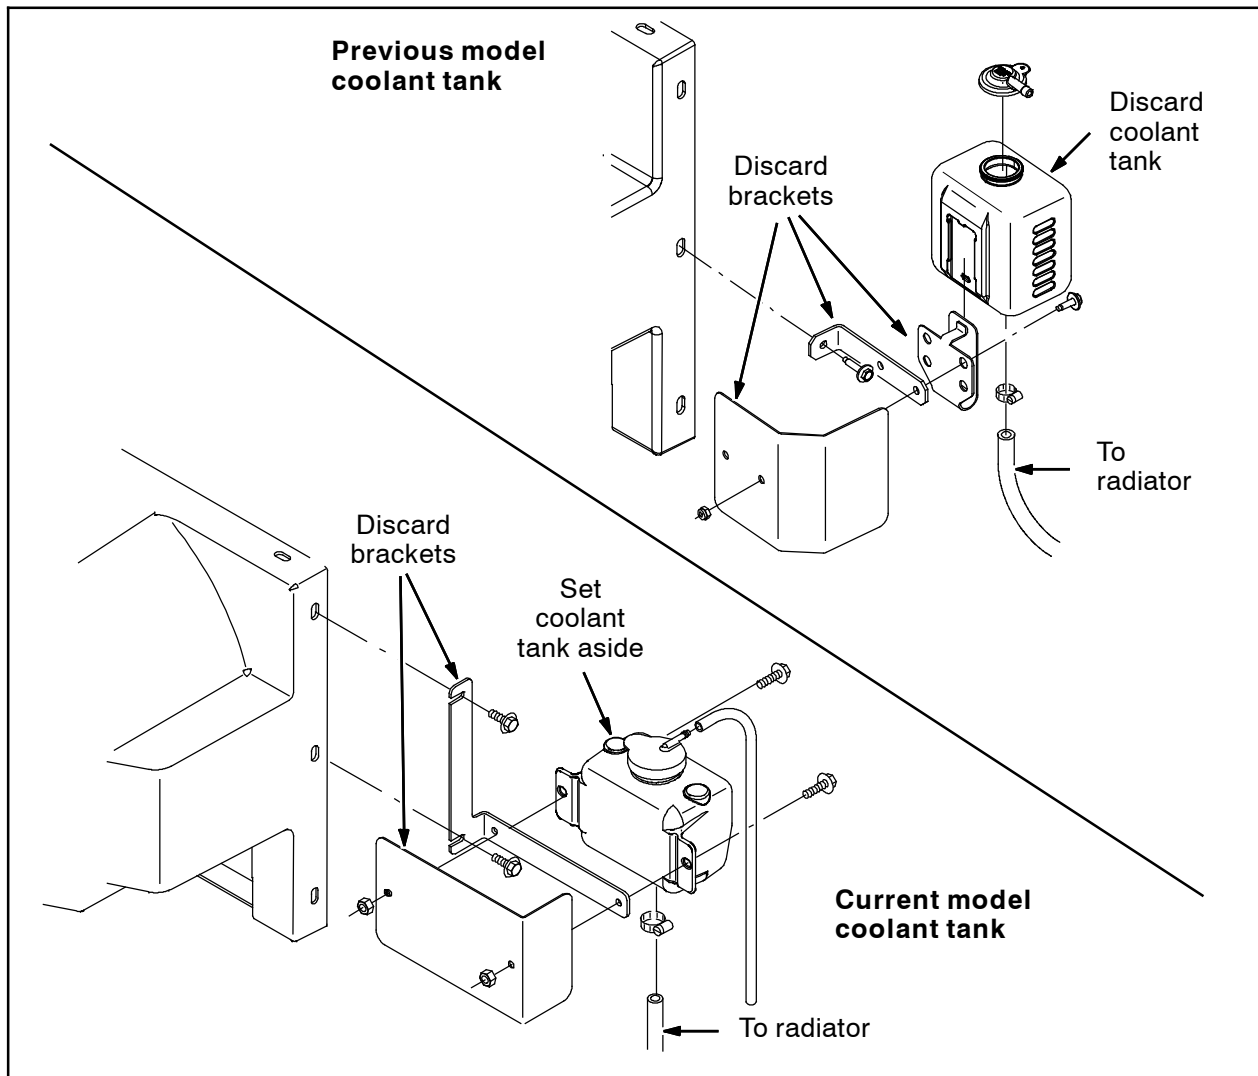

FIG. 75
92. Disconnect the hoses from the coolant tank and remove the coolant tank assembly from the machine. Set the coolant tank aside if machine is equipped with the current model tank. Discard the coolant tank if the machine is equipped with the previous model tank. Discard all brackets. Set all hose clamps and hardware aside. (Fig. 75)